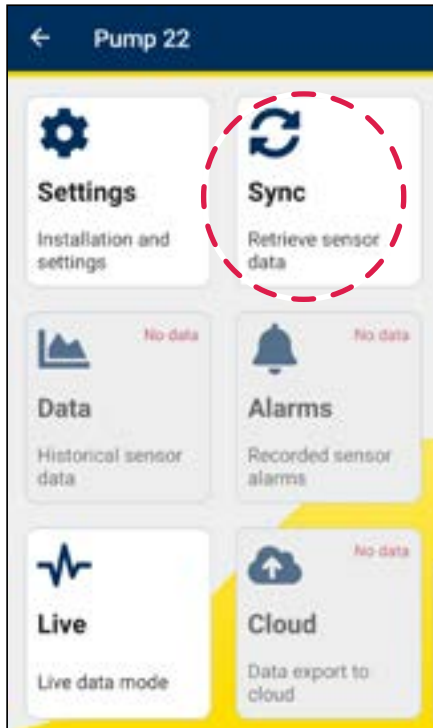

Figure 38
3. Sync the sensor data with Bluetooth® (see figure 38).